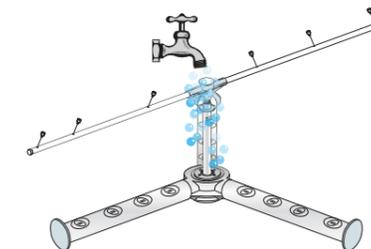

Fig.4
- Remove the arms by loosening the fixed screws and thoroughly clean them and the nozzles under the running water **Fig.4**.